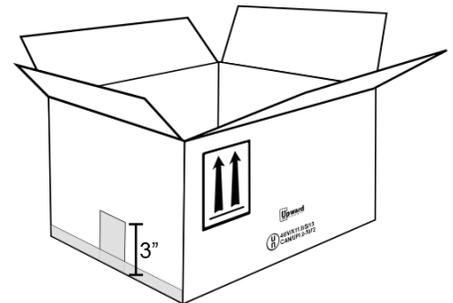

Figure 2
2. Seal bottom of carton with three strips of 48mm wide, 3M #305 clear packing tape (or equivalent), in an "H" pattern. Extend tape beyond each edge by at least 3". (See Figure 2)